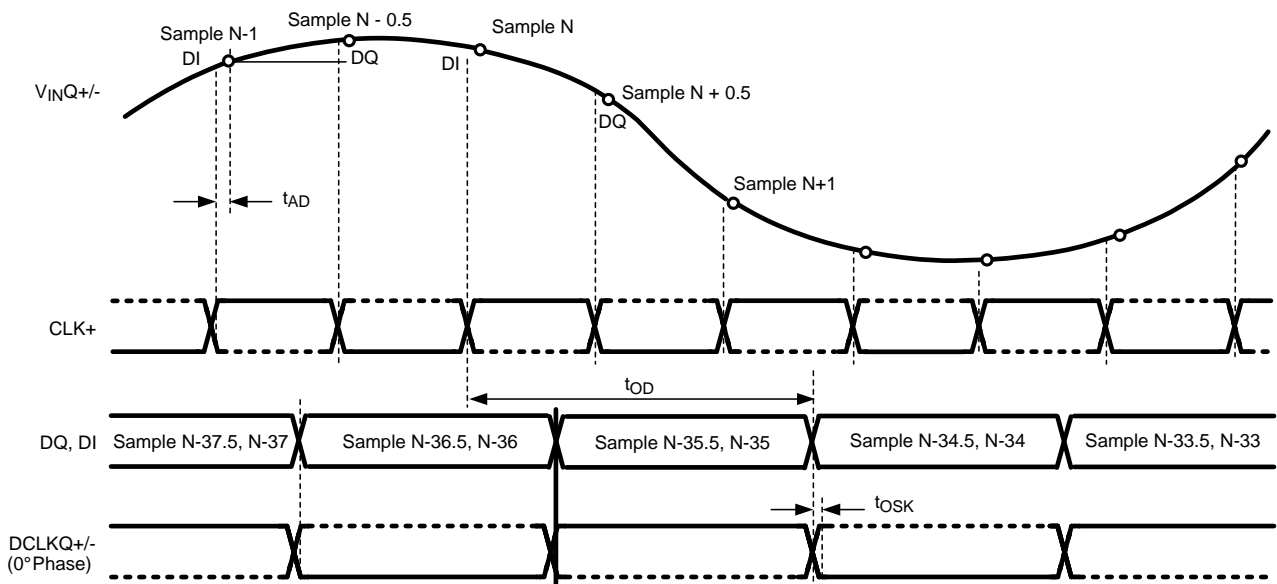

Figure 8. Clocking in Non-Demux Mode DES Mode (See note at Figure 5)
* Note: The timing for Figure 5 - Figure 8 is shown for the one input only (I or Q). However, both I- and Q-inputs may be used. For this case, the I-channel functions precisely the same as the Q-channel, with VinI, DCLKI, DId and DI instead of VinQ, DCLKQ, DQd and DQ. Both I- and Q-channel use the same CLK.